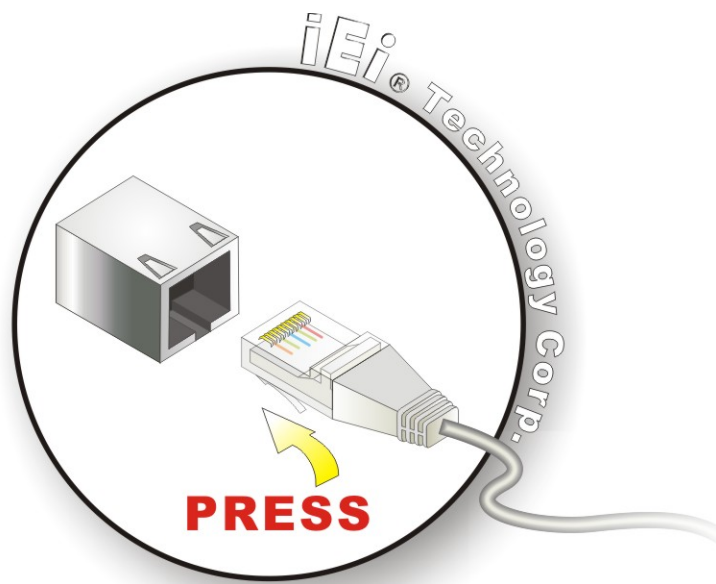

Figure 5-23: LAN Connection
Step 2: **Align the connectors.** Align the RJ-45 connector on the LAN cable with one of the RJ-45 connectors on the IMBA-9454ISA. See **Figure 5-23**.